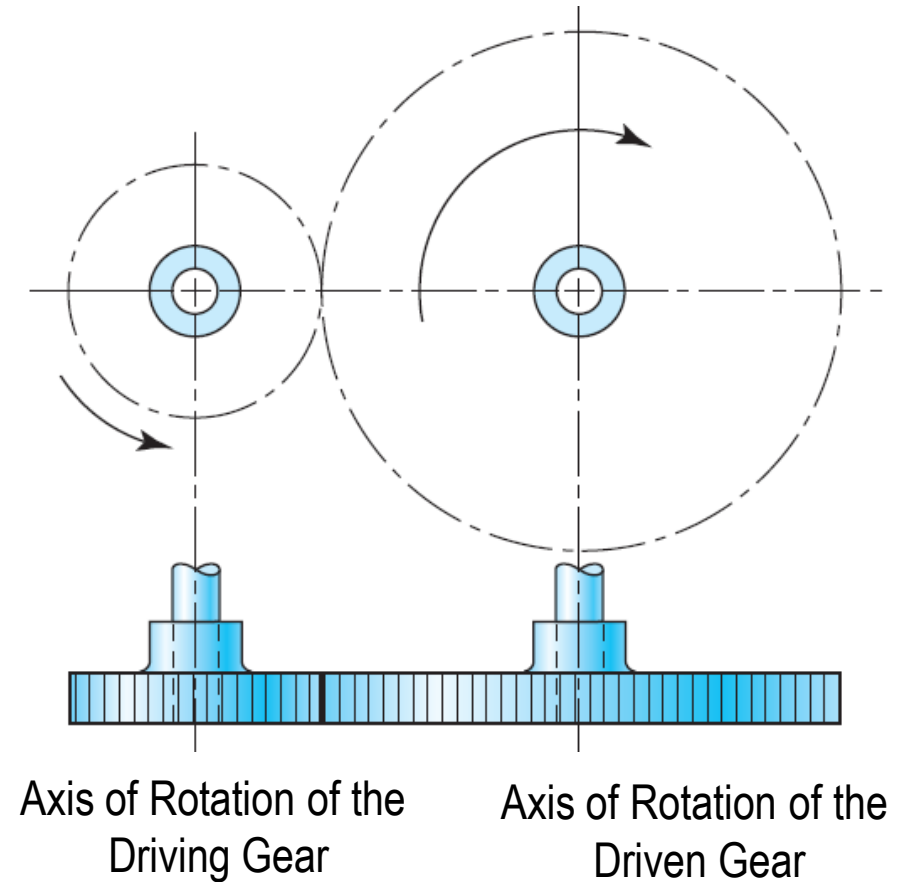

Figure 8-1 Spur Gears
- **Spur Gears:** have the teeth *parallel to the axis of rotation* as shown in Figure 8-1.